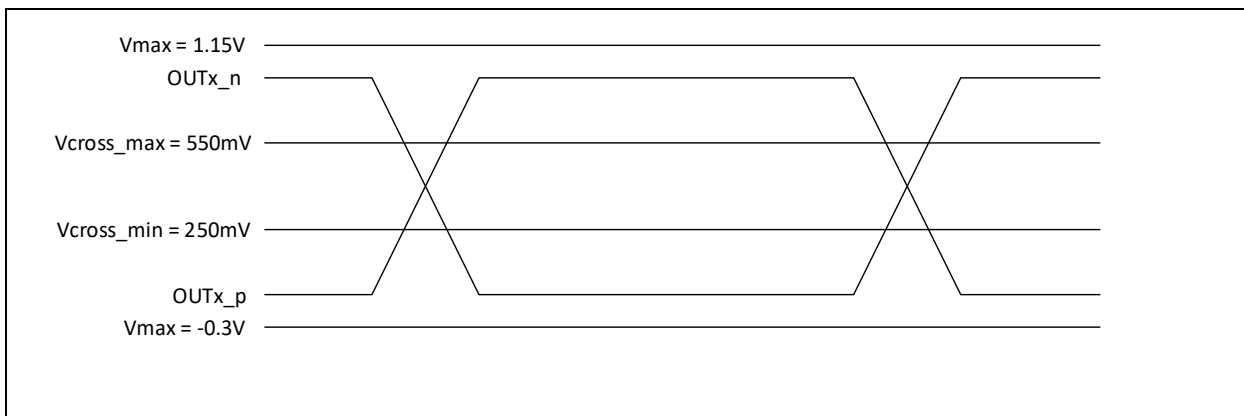

Figure 14. Single-Ended Measurement Points for Absolute Cross Point and Swing
(4) Measured at crossing point where the instantaneous voltage value of the rising edge of CK equals the falling edge of CK# . See Figure 14
(5) Refers to the total variation from the lowest crossing point to the highest, regardless of which edge is crossing. Refers to all crossing points for this measurement. See Figure 14.
(6) This requirement, from PCI Express Base Specification, Revision 4.0 is applicable only to clock generators and not to buffers. A clock buffer is a transparent device whose output clock period follows the input clock period.
(7) Defined as the maximum instantaneous voltage including overshoot. See Figure 14.
(8) Defined as the minimum instantaneous voltage including undershoot. See Figure 14.